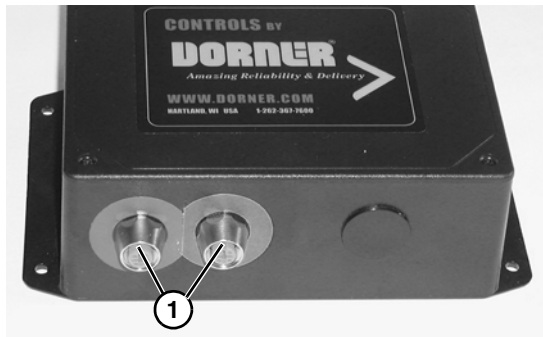

Figure 14
1. Connect push button unused accessory port (**Figure 14, item 1**).